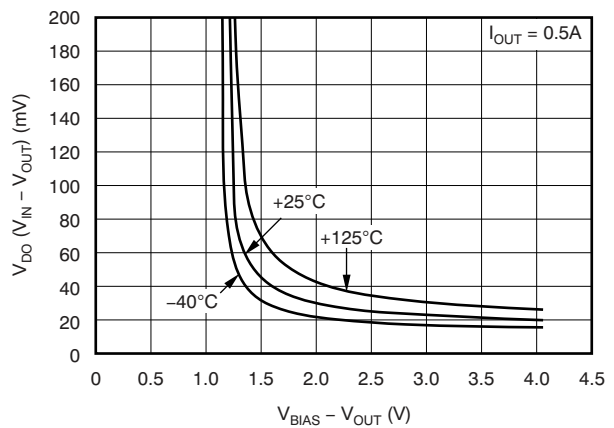

Figure 6-6. Dropout Voltage vs  $(V_{BIAS} - V_{OUT})$  and Temperature ( $T_J$ )
- (1) Adjustable devices tested at 0.8 V; resistor tolerance is not taken into account.
- (2) Dropout is defined as the voltage from  $V_{IN}$  to  $V_{OUT}$  when  $V_{OUT}$  is 3% below nominal.
- (3) 3.25 V is a test condition of this device and can be adjusted by referring to Figure 6-6.